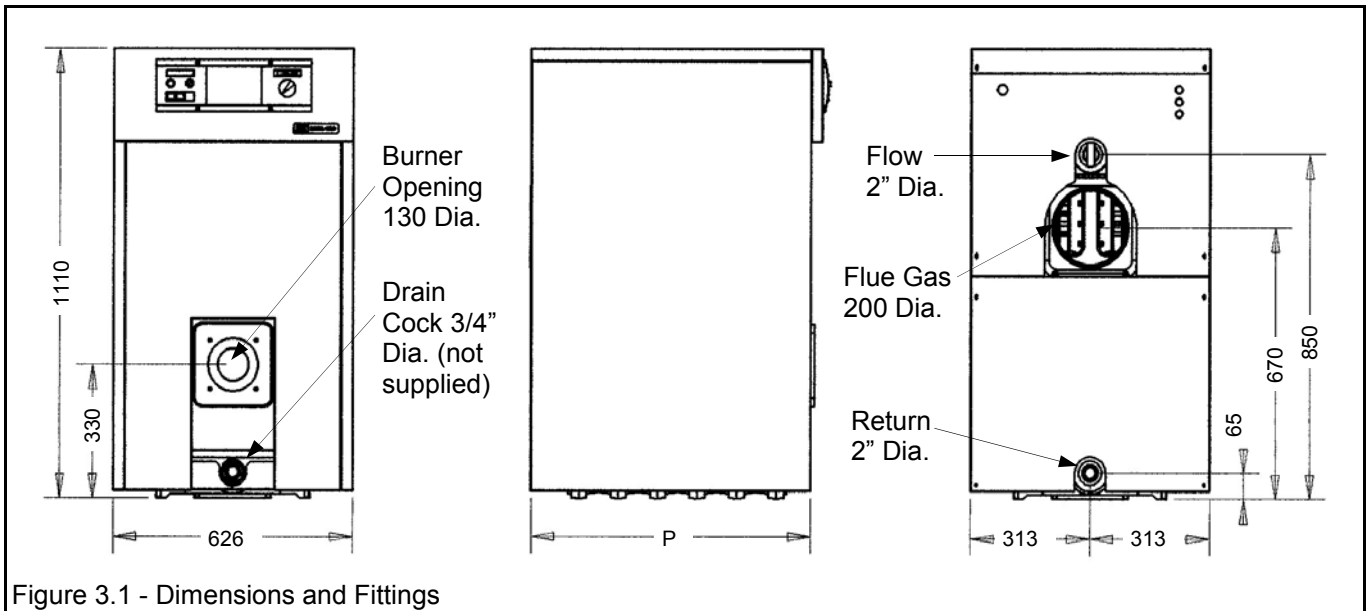

Figure 3.1 - Dimensions and Fittings
5.2.3. Provide a coupling duct with a diameter of 200mm. Height of the axis; 670mm (see Figure 3.1 on page 3 of this manual). Place the flue coupling duct. Ensure air-tightness of the coupling to the chimney.